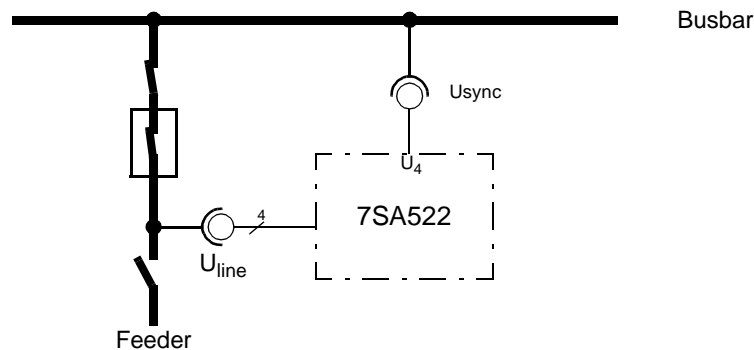

Figure 8-14 Measuring voltages for synchro-check
- ❑ Then the circuit breaker is closed while the line isolator is open (see fig. 8-14). Both voltage transformers therefore measure the same voltage.